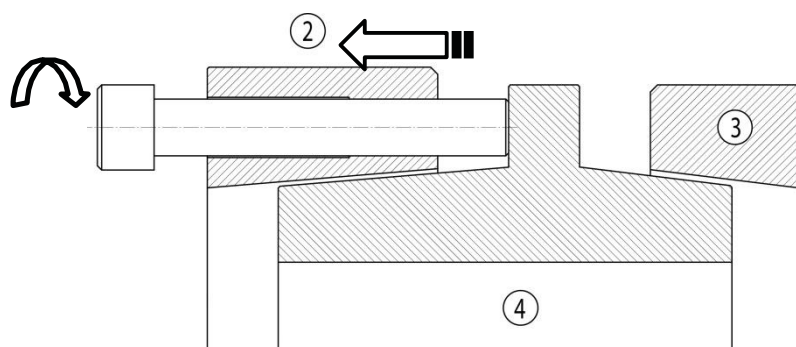

Figure 7
2. Start tightening the screws at the slot of the clamping element. Proceed in clockwise direction until the short clamping ring (3) is pushed off.
3. As soon as the short clamping ring (3) is loose, screw as many screws into the push off threading of the long clamping ring (2) as displayed in Figure 7.